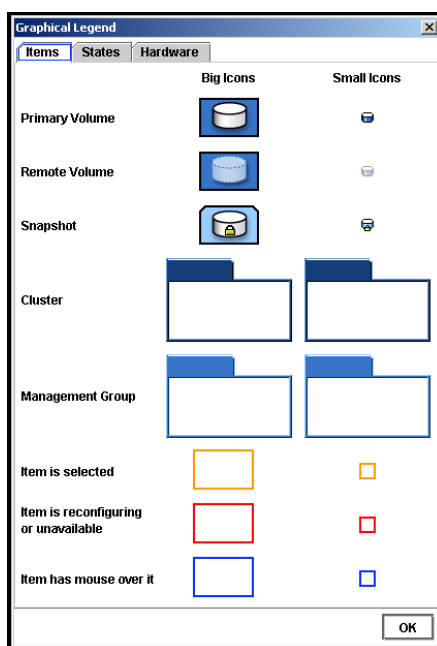

Figure 3. Graphical Legend Items from the Help Menu
- The Items tab, shown in Figure 3, displays the icons used to represent virtual items displayed in the Console. For example, management groups and clusters are virtual items.